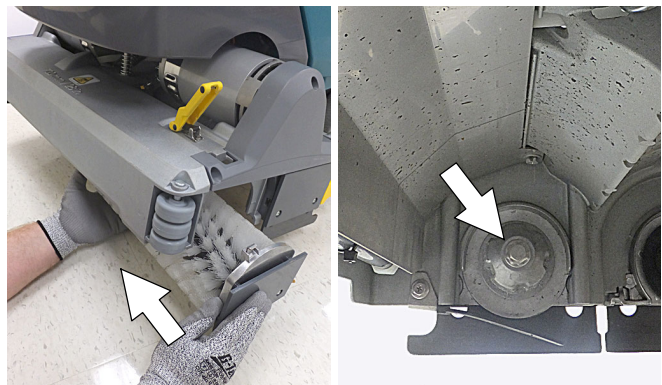

FIG. 18
4. Guide brush onto the drive hub and refasten latch (Figure 18).